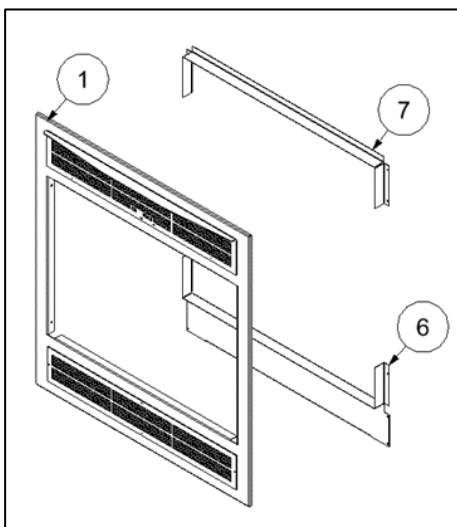
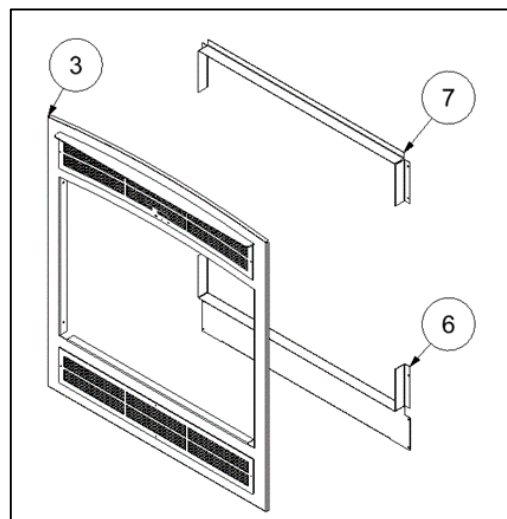

Figure 3-14: Traditional Rectangular Surround Components
Figure 3-15: Traditional Arched Surround Components
4. Place the surround (Item 1 in Figure 3-14 or Item 3 in Figure 3-15) within the door holder and secure it in place with four black screws (one on each corner). Make sure that the handles of the Combustion Air Control pass through the slots of the surround.